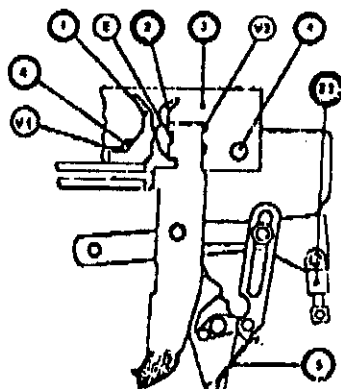

Fig. 26
- B. Arcing Contacts and Insulating Strips (Fig. 26).
1. *Arcing contacts.* With breaker in open position, loosen retaining bolts V1 and remove contact by sliding forward. Replace with new contact leaving retaining bolt V1 loose. Close breaker and loosen bolt V2 (two per contact) approximately 1.5 mm (0.059 inch) or until contact clears locating boss E, then remove by lifting upwards. Replace with new contact, checking to see that contact seats in locating boss before tightening bolt V2. With 0.9 mm (0.035 inch) feeler gauge, position contact (1) and tighten bolt V1.